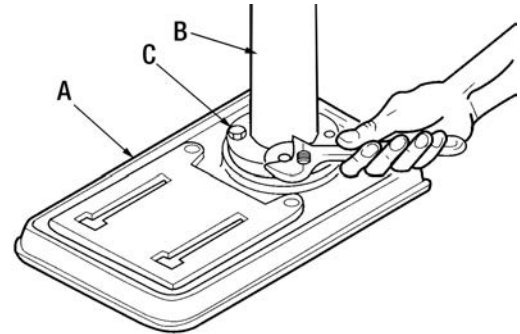
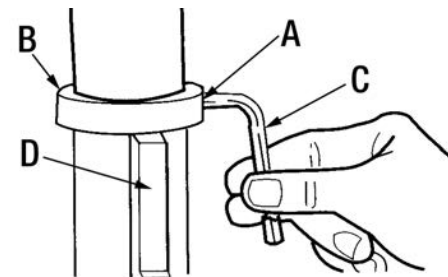

FIGURE 6
FIGURE 7
1. Position the base (A) Fig.6 on the floor. Remove the protective covering and discard.
2. Remove protective sleeve from the column (B) and discard. Place the column assembly on the base, align the holes in the column support (C) with the holes in the base.
4. Install a bolt in each hole through the column support (C) and the base and tighten with the adjustable wrench.
5. Loosen set screw (A) Fig.7 in column collar (B) with 3mm hex. key (C) and remove collar and rack (D) from the column.